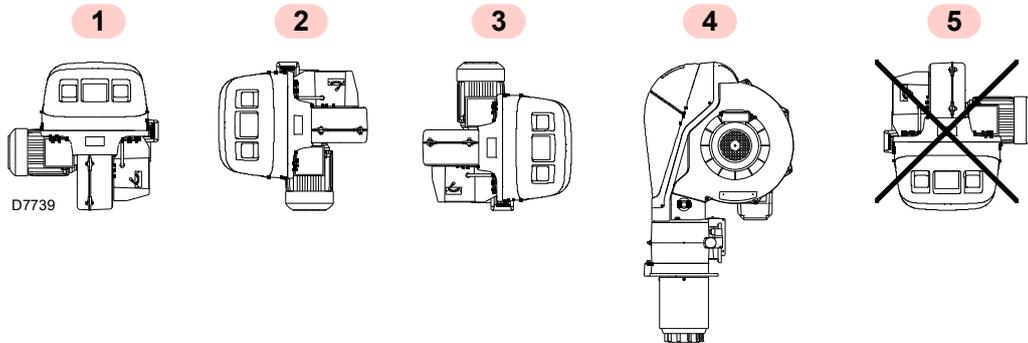

Fig. 15
- The burner is designed to operate only in positions 1, 2, 3 and 4 (Fig. 15).